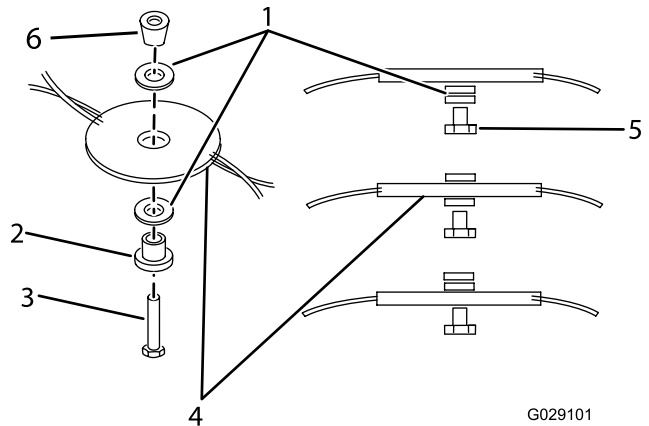

Figure 13
5. Reposition the spacers to the desired height, then reinstall the cutting disc (Figure 13).